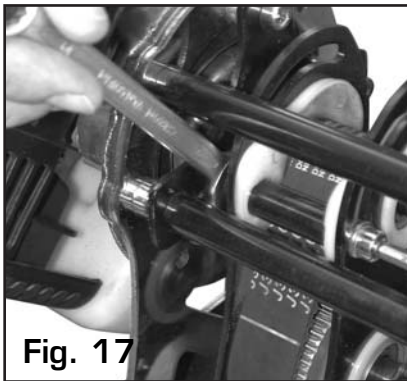

Fig. 17
3. Loosen the tensioned lock nut on the cam slotted plate (Fig.17).